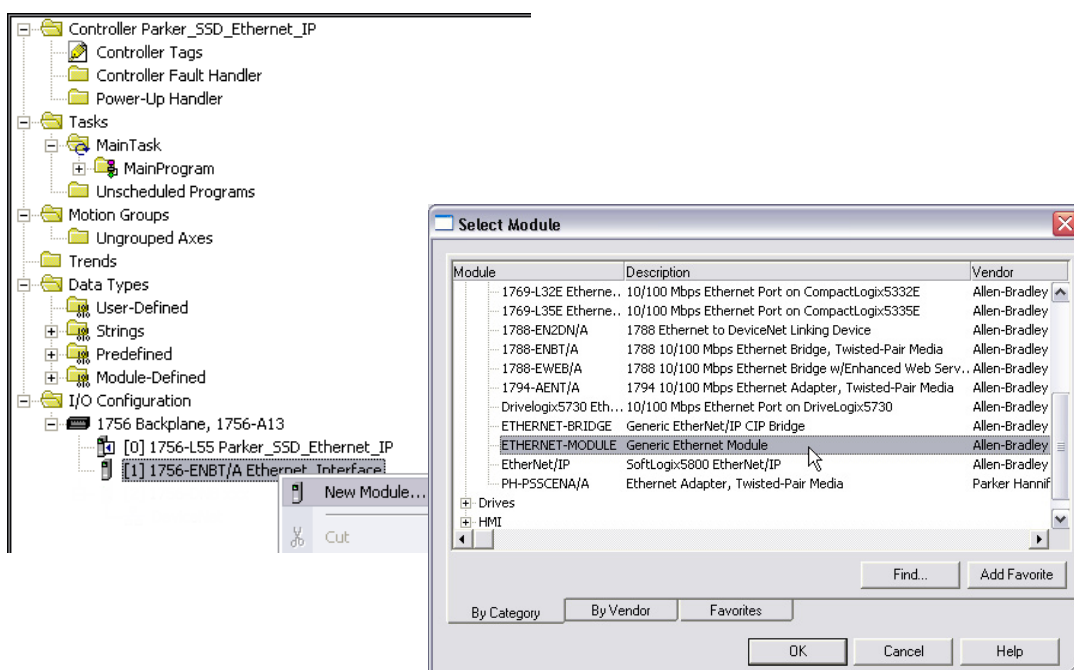

Figure 21. Generic Ethernet Module Select
- Right click on the Ethernet Interface Module, select New Module. This screen will allow the selection of the Generic Ethernet Module. Refer to Figure 21.